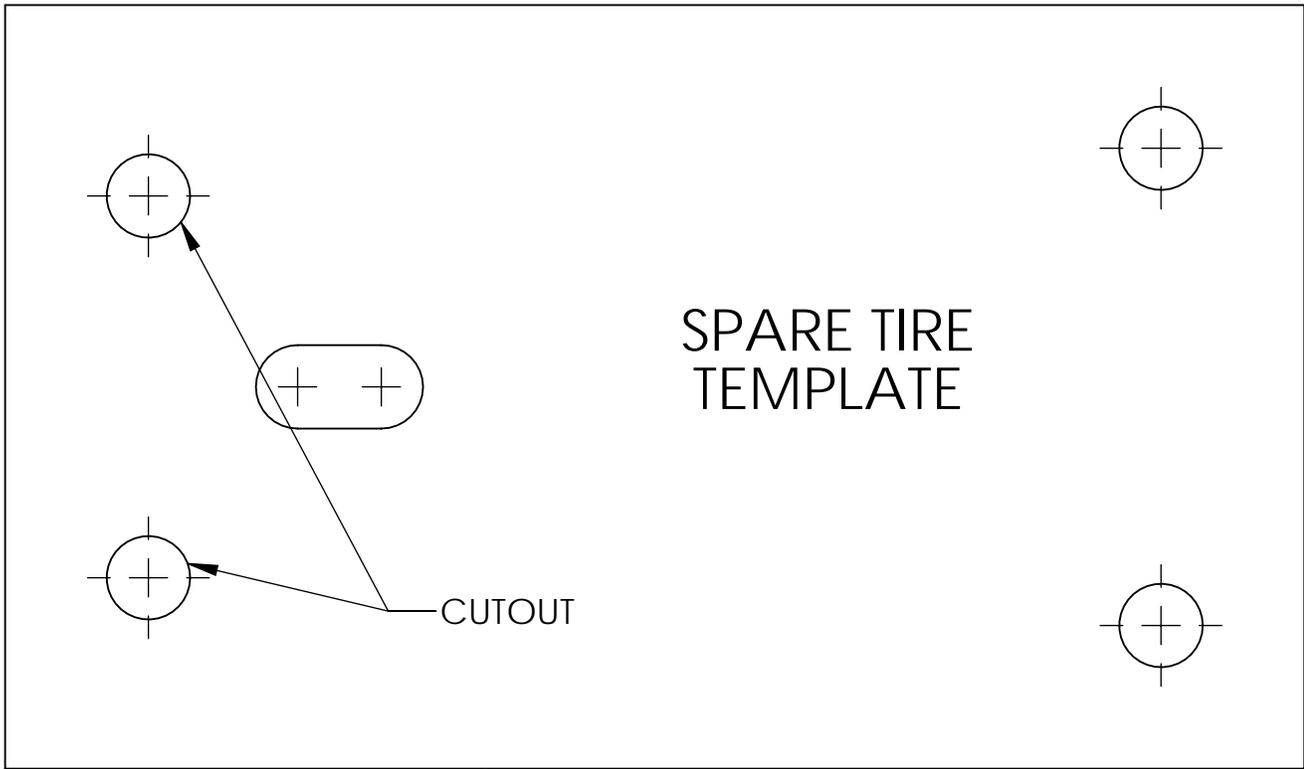

Figure 31
93. If equipped with a factory receiver hitch, install the 2" diameter body spacers between the bumper and hitch. Fasten using two 14mm x 110mm bolts and two 1/2" USS washers **Figure 31**.